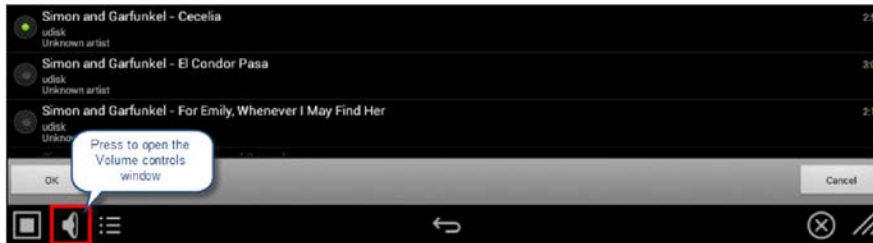
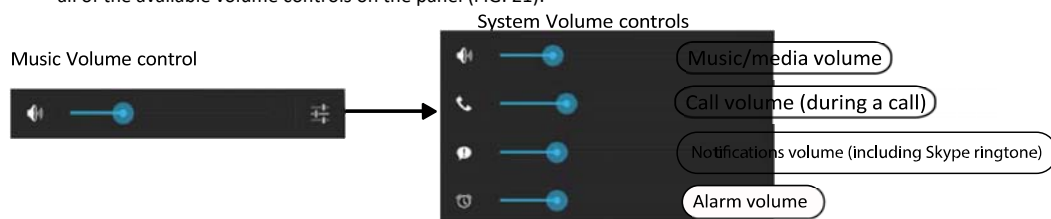

FIG. 20 DEVICE - Sound page - Volume Control Varia
FIG. 21 Music Volume control and System Volumes control
1. In the Sound page, select the Volume Varia (FIG. 20) to open the Music Volumes control window (FIG. 21 on page 30):
3. Press the Varia on the right side of the Music Volume control to open the System Volumes control. Use these volume controls to adjust all of the available volume controls on the panel (FIG. 21):